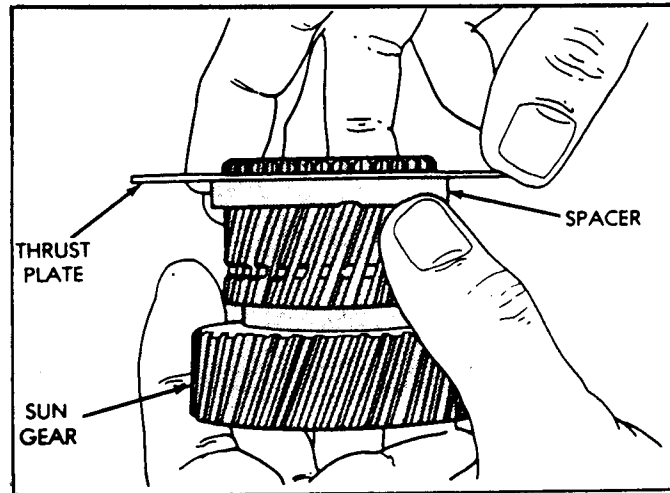

Figure 77
9. Install thrust plate over the sun gear and on top of spacer (See Figure 77). Note that thrust plates are the same, both front and rear.